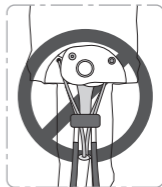

Figure 5
- Totem Cam cannot function as passive protection, and must not be used as shown in *figure 5*.